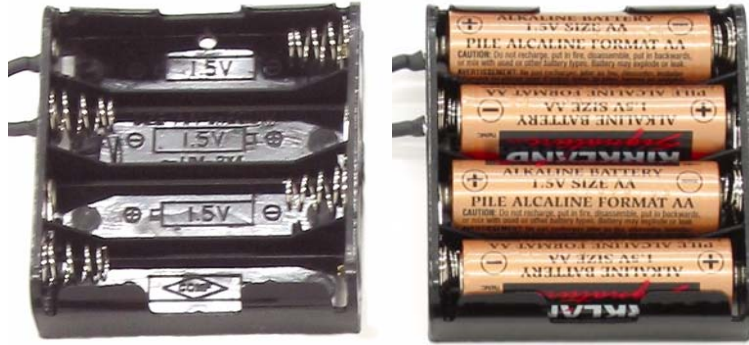

Figure 1-23
- √ Load the batteries into the battery pack as shown in Figure 1-23. Make sure to follow the polarity (+ and -) markings on the inside of the battery pack's plastic case when inserting each battery.